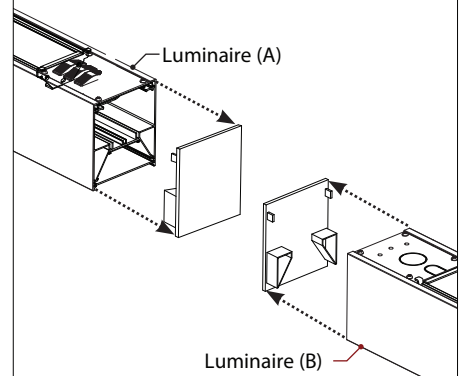

Figure 2
2. Remove end cap, top LED assembly and tab from luminaire on power feed side. (Figure 2)
2. Connect luminaires' quick connects together. (Figure 2)